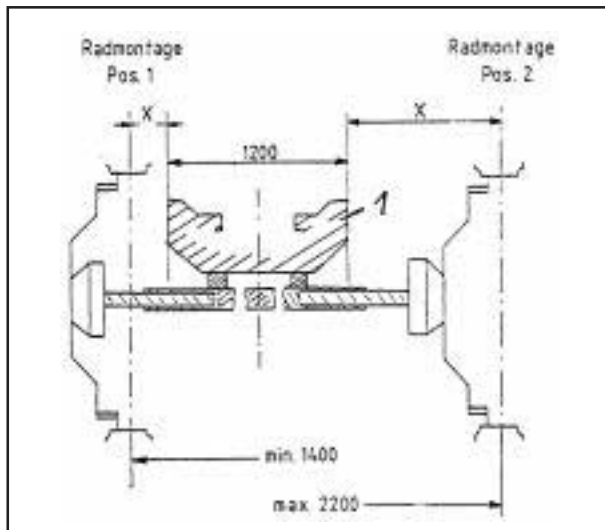

Fig. 5.11
Stepless from 1400 mm to 1960 mm if rims are fitted according to Pos. 1 (Fig. 5.11).
Stepless from 1700 mm to 2200 mm if rims are fitted according to Pos. 2 (Fig. 5.11).
- Loosen the clamping bolts (Fig. 5.11/1).
At the UG 4500 Magna the track width can be adjusted by wheel mounting (Fig. 5.11)
Position 2: 2250 mm (Fig. 5.11)